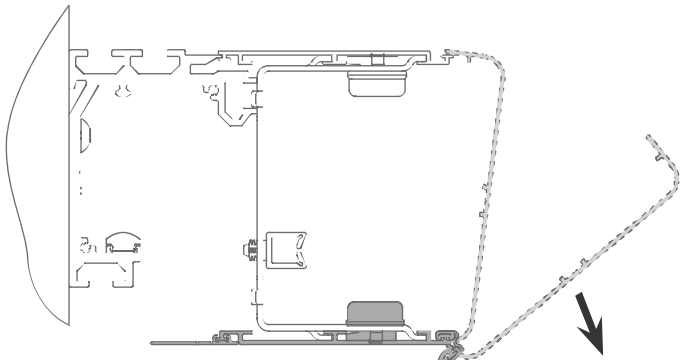

Fig. 12.1
- Open front cover. **Fig. 12.1**